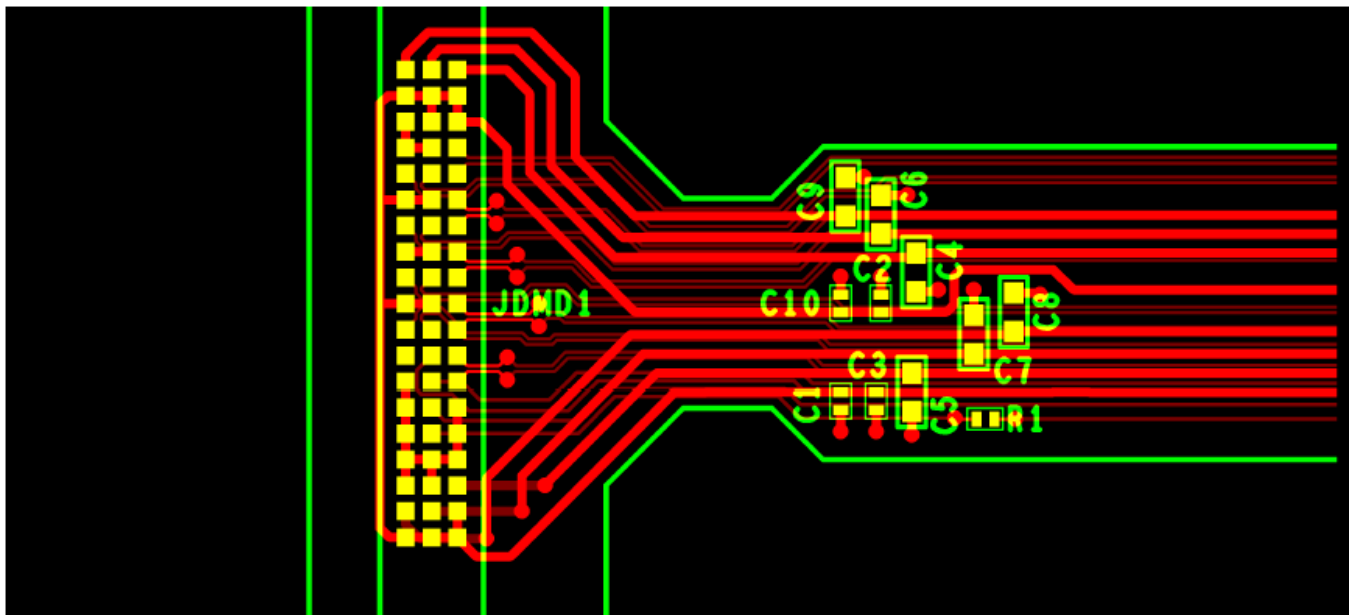

図 15. Power Supply Connections
- Minimize vias, layer changes, and turns for the HS bus signals. See Figure 15.
- Minimum of two 100-nF decoupling capacitor close to VBIAS. Capacitor C6 and C7 in Figure 15.
- Minimum of two 100-nF decoupling capacitor close to VRST. Capacitor C9 and C8 in Figure 15.
- Minimum of two 220-nF decoupling capacitor close to VOFS. Capacitor C5 and C4 in Figure 15.
- Minimum of four 100-nF decoupling capacitor close to Vcci and Vcc. Capacitor C1, C2, C3, and C10 in Figure 15.